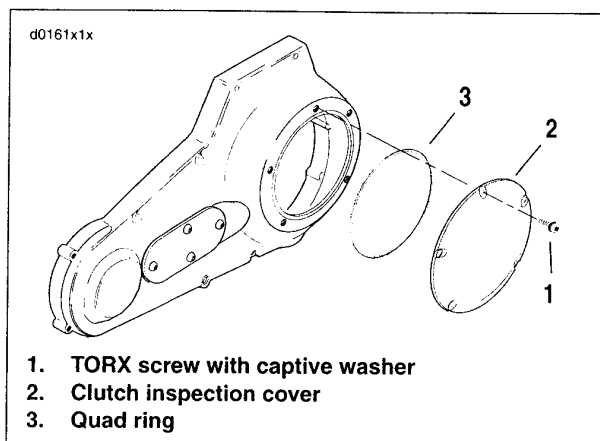

Figure 1-25. Clutch Cover
3. See Figure 1-25. Remove five TORX screws with captive washers (1) to detach clutch inspection cover (2) from primary chaincase cover.
4. Remove the quad ring (3) from the groove in the chaincase cover. Wipe oil from quad ring, groove in chaincase cover and mounting surface.